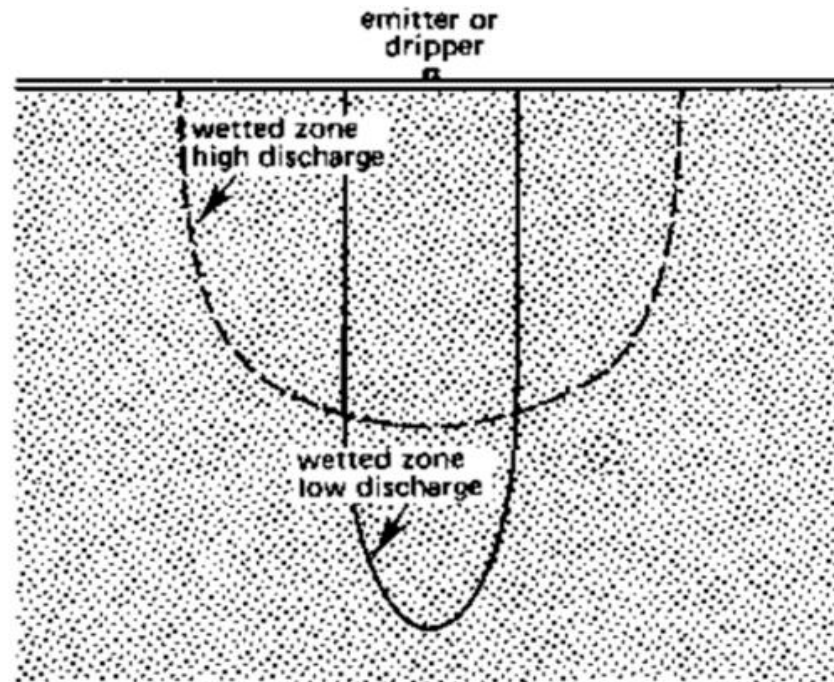

Figure 1. Wetting patterns for sandy soils with high and low flow-rate drip tapes
- Water discharge rate of drip tapes also affects the wetting pattern. In general, water is more likely to move horizontally with high flow-rate (high discharge) drip tapes than low flow-rate (low discharge) drip tapes (Figure 1 and 2).
- The wetting patterns which develop from dripping water onto the soil depend on discharge and soil type. The figures 1 and 2 show the effect of changes in discharge on two different soil types, namely sand and clay.